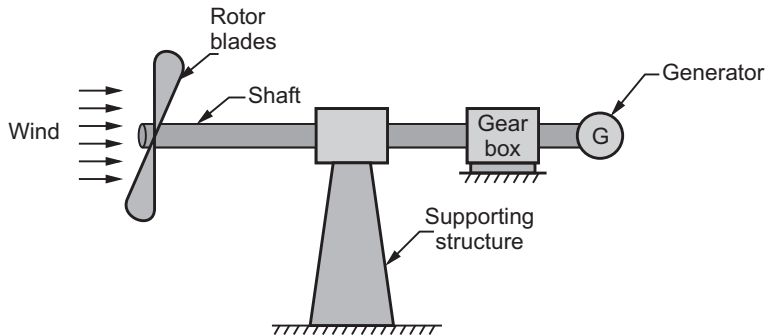

Fig. 1.4 : Wind mill
- Fig. 1.4 shows the general layout of wind mill.